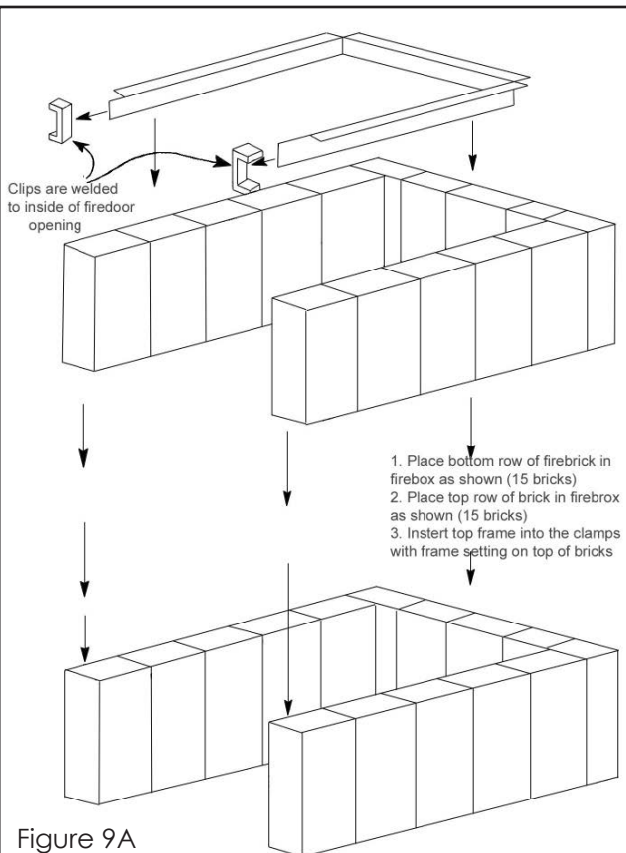
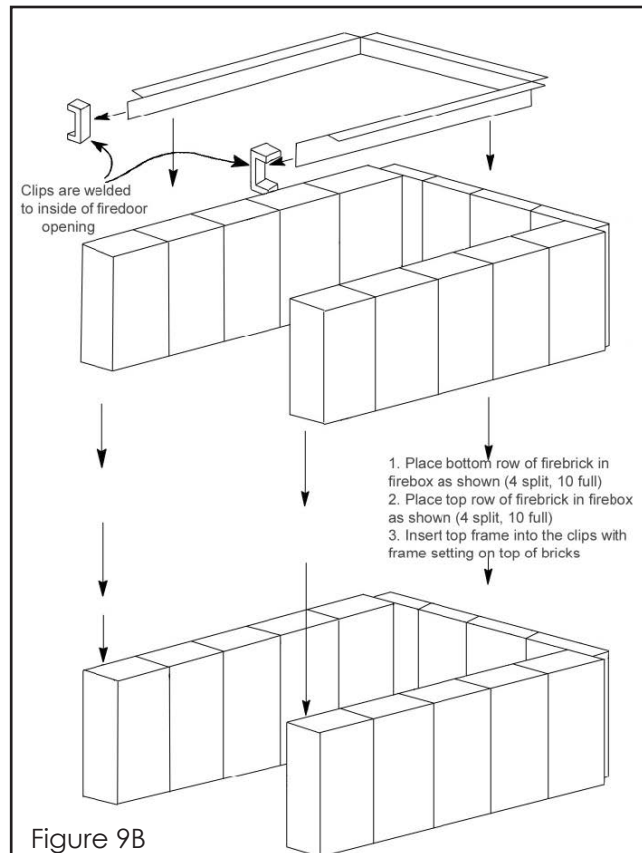

Figure 9A
Figure 9B
7. Install brick in firebox according to Fig. 10A for CL-86-96G, Fig. 9B for CL-86-96C, and Fig. 9A for CL-115-170C. For grate installation in CL-86-96G refer to Fig. 10A and for grate and cast liner installation in CL-115-170G refer to Fig. 10B.